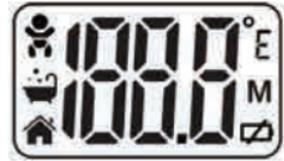

Figure 1
2. Press and release the multifunction button. You will hear a short beep then all segments will display (Figure 1) for 1 second with red backlight for 0.5 seconds and then green backlight for 0.5 seconds. This is a function check indicating the unit is working properly.